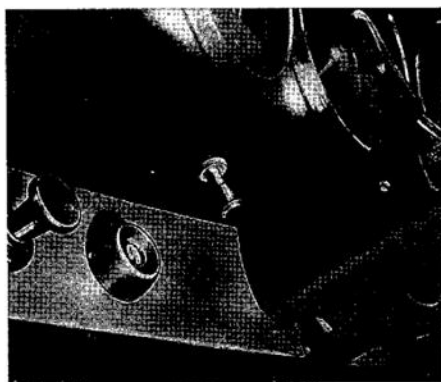

Fig. 27
12. Drill mounting hole for wiper switch (.335" or 8.5 mm dia). Mark location of the hole in the middle between the tachometer and the multigauge unit (Fig. 27); the distance between bore center and aluminum strip (or) rear edge of wood panel is 1.457" (37 mm).